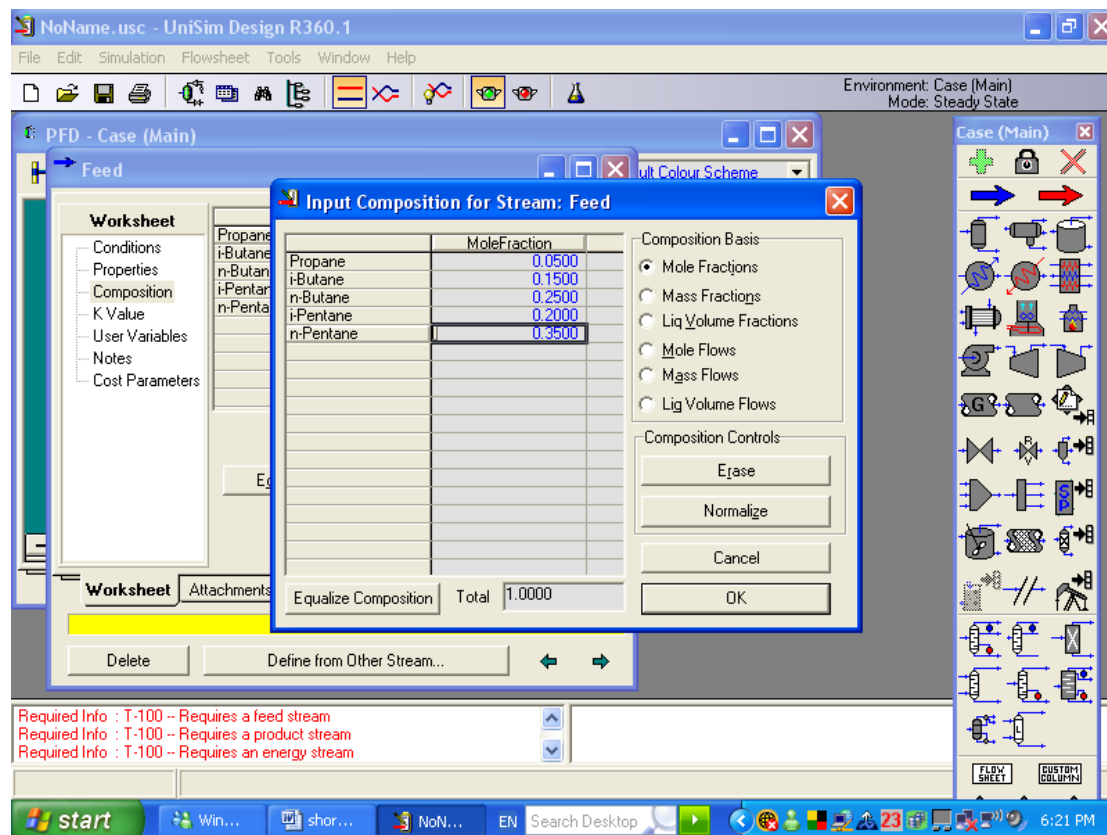

Figure K-15. Snapshot of **Input Composition For Stream: Feed** window.
Step 15. Select **Mole fraction** tab from **Input Composition for Stream: Feed** window and input the data values of the components as shown in Figure K-15. Click on **OK** button to close the window.